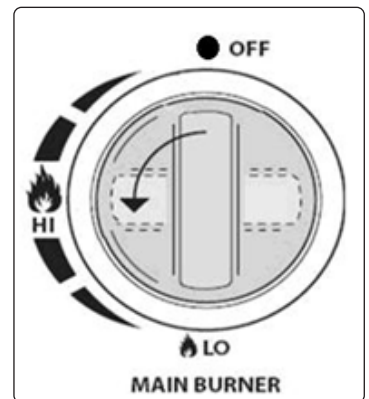

Fig.1
- 2. Make sure all gas controls on the barbecue are in the **OFF** position, see fig.1.